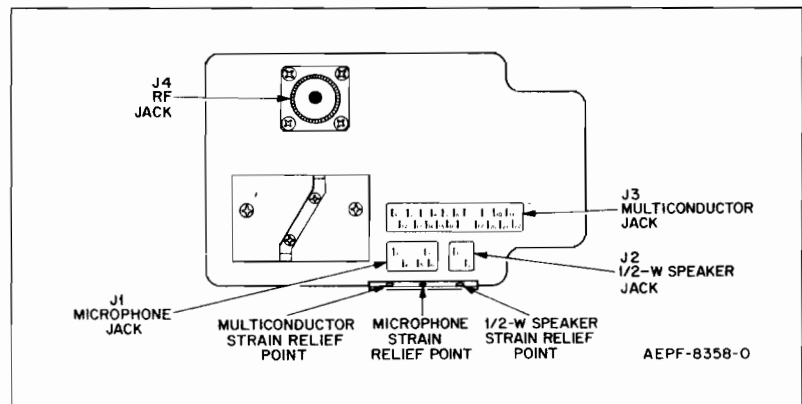

Figure 8.
- Refer to Figure 8 and connect the multiconductor plug and microphone plug to the console.
- l. Connect the antenna cable connector to the console rf jack J4 (see Figure 8).